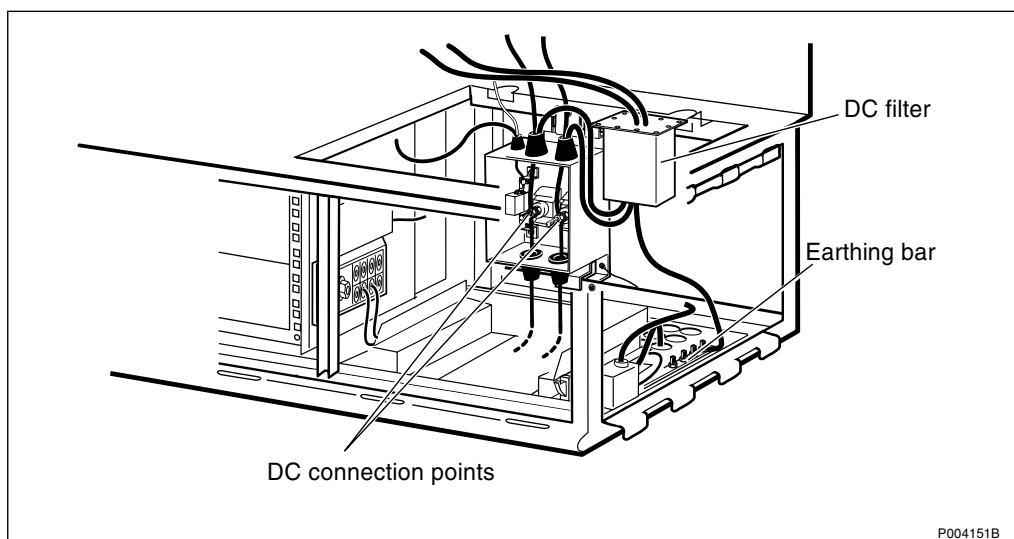
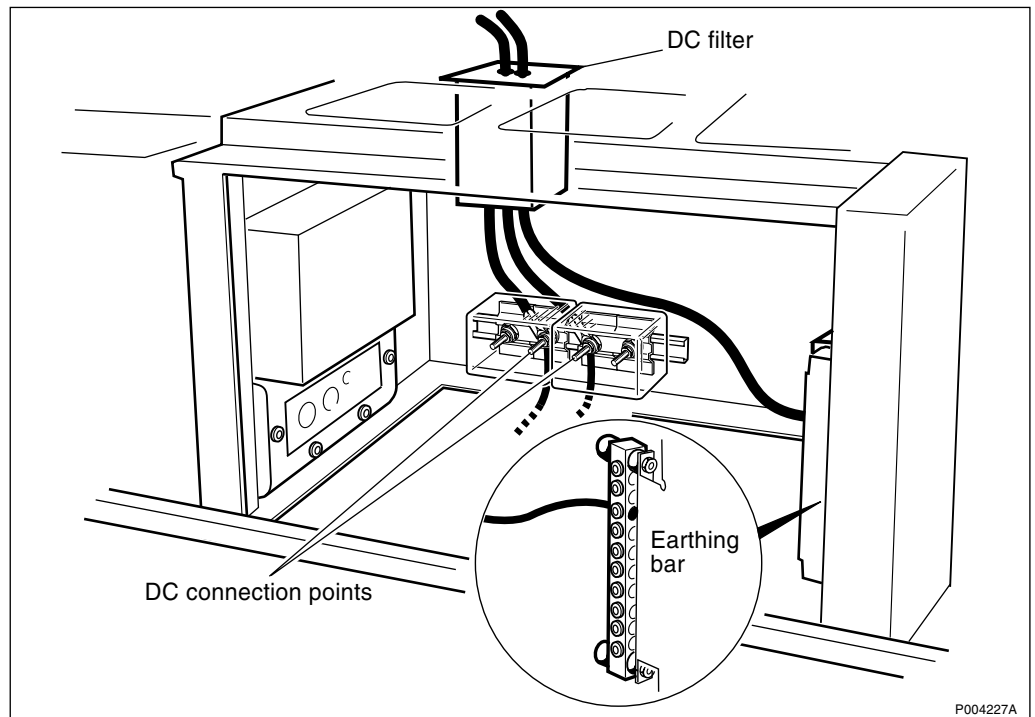

Figure 56 Measurement of battery voltage on connection points, old design
Figure 57 Measurement of battery voltage on connection points, new design
1. Refer to Figure 56 on page 110 or Figure 57 on page 111 and measure the DC voltage at the end points of the expanded battery cable (at the connection points). If the voltage is OK, proceed to step 2.